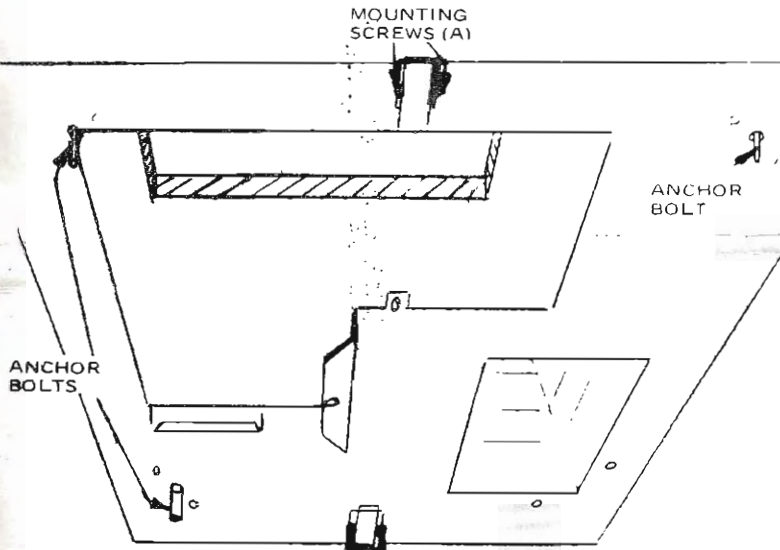

FIGURE 7
- Place ceiling template in position and secure to ceiling with the four screws (A) provided. Be sure anchor bolts protrude through the ceiling template. Figure 7.